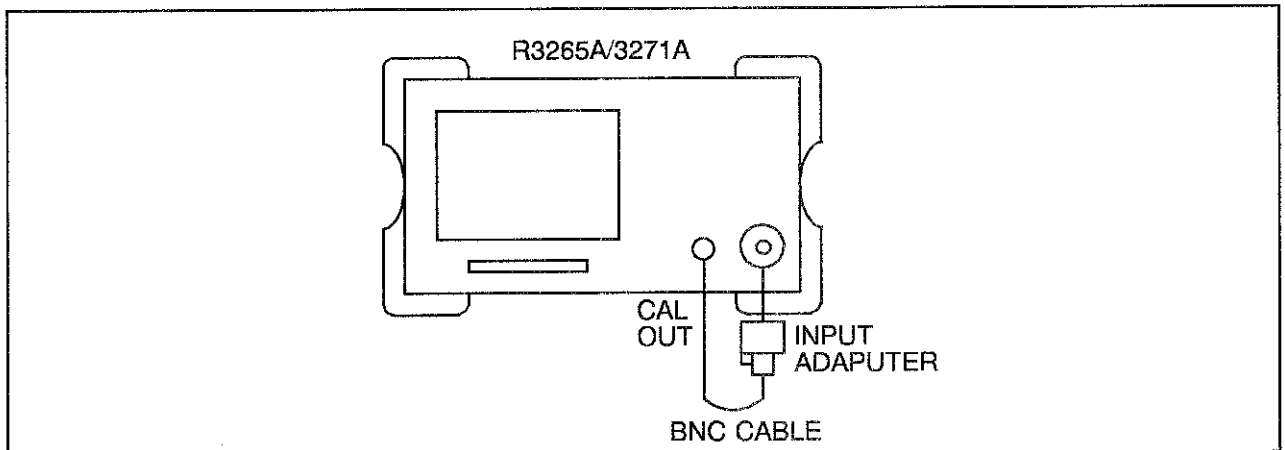

Figure 4-8 Resolution BW Switching Uncertainty Test Setup
(1) Connect the R3265A/3271A CALOUT to the INPUT 50 Ω as shown in Figure 4-8.
(2) Press the **PRESET** key, the **SHIFT** key and the **CAL** **7** key **EACH ITEM** **RBW SWITCH**.